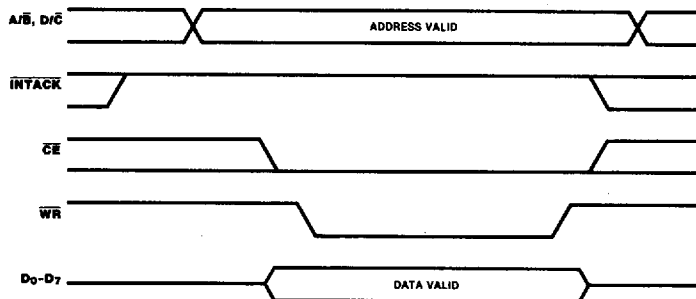

Figure 13. Write Cycle Timing
**Write Cycle Timing.** Figure 13 illustrates Write cycle timing. Addresses on A/B and D/C and the status on  $\overline{INTACK}$  must remain stable throughout the cycle. If  $\overline{CE}$  falls after  $\overline{WR}$  falls